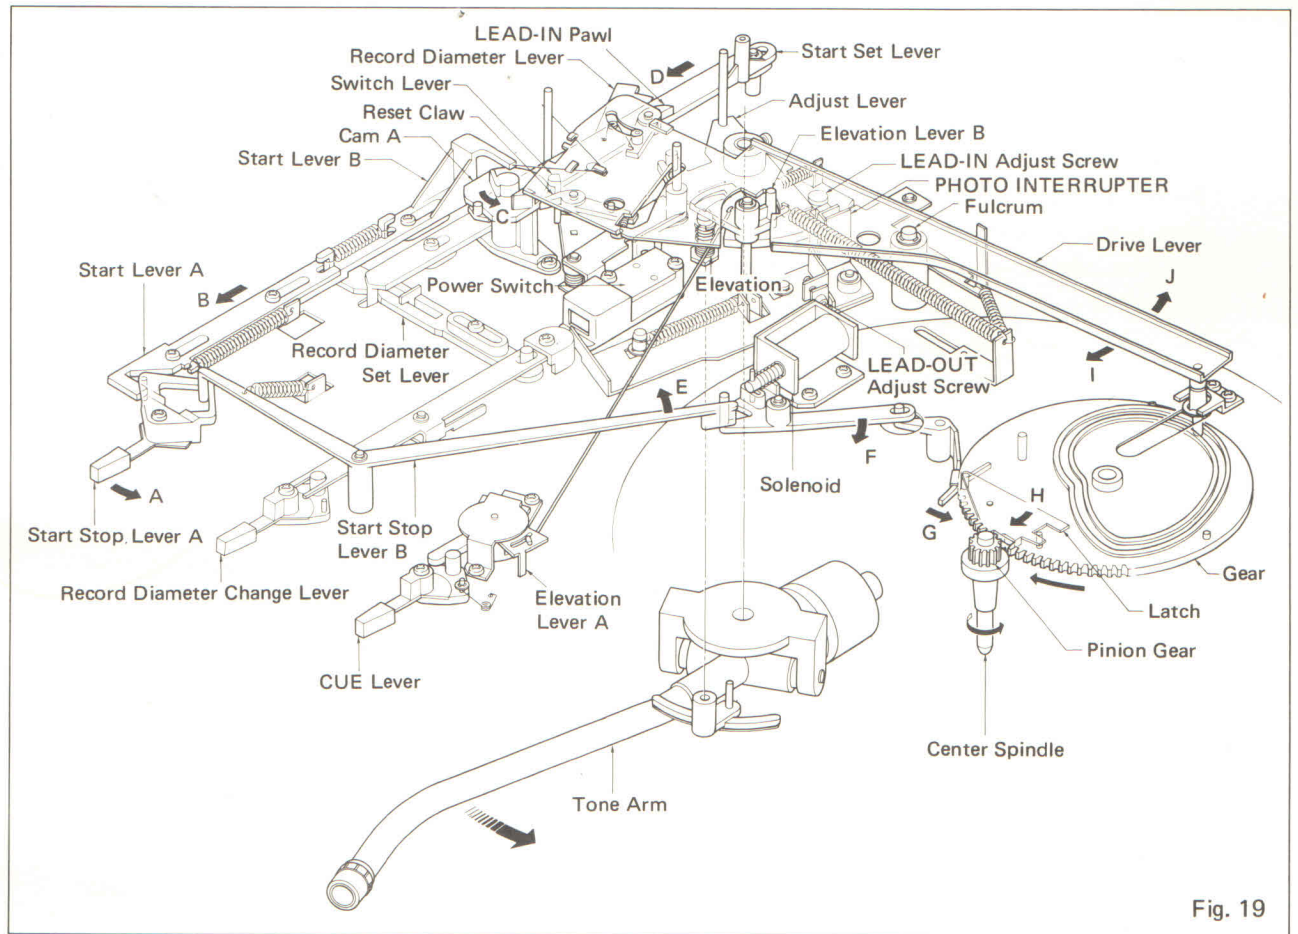
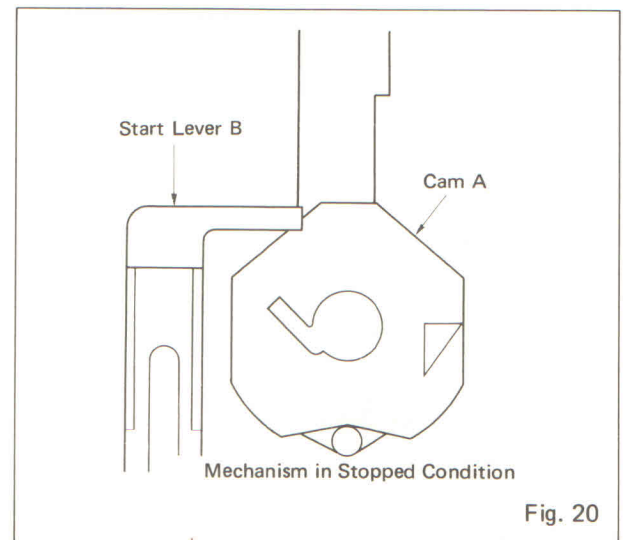

Fig. 19
Fig. 20
### 1. Start-Up of DD Motor and Lead-In of Tone Arm (Refer to Fig. 19)
- (1) When Start/Stop Lever is pushed in the direction of arrow A, Start Levers A and B will move in the direction of arrow B.
- (2) The projecting portion of Cam A is pulled by the forward end of Start Lever B, turning Cam A in the direction of arrow C (moving from the position of Fig. 19 to Fig. 20). The projecting portion of Cam A will become horizontal as a result of this motion.
- (2) When the Solenoid is actuated, the levers linked with the Solenoid will be pulled in the direction of arrow F shown in Fig. 19. The rest of the operation is the same as that described in Step 1-(4).
- (3) When the Main Gear turns, the Drive Lever will again make see-saw movements, pushing back the post of the Adjust Lever and making the Tone Arm return to the Arm Rest.